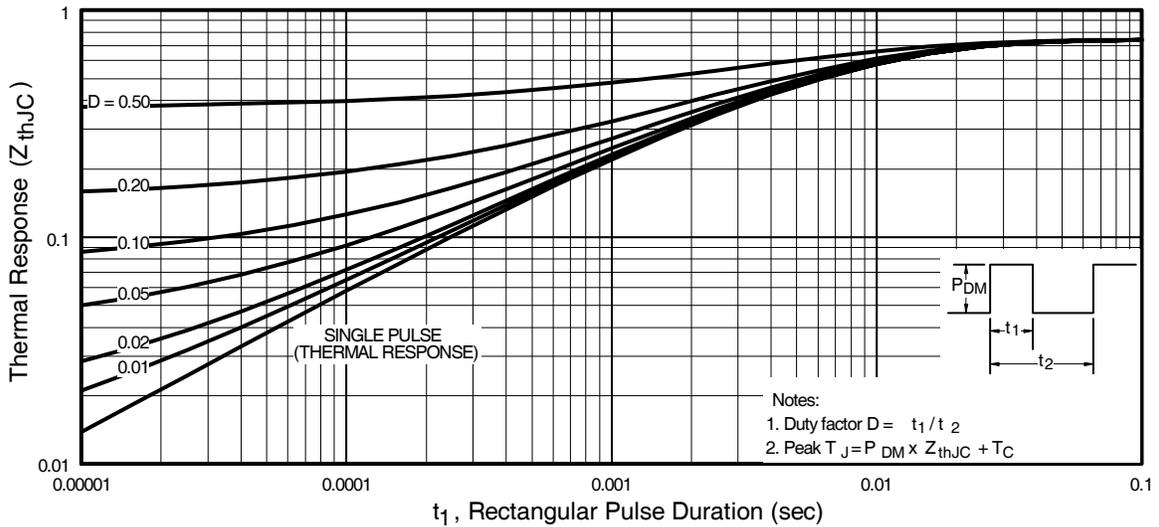

Fig 11. Maximum Effective Transient Thermal Impedance, Junction-to-Case
- ① Repetitive rating; pulse width limited by max. junction temperature. (See fig. 11)
- ② Starting $T_J = 25^\circ\text{C}$, $L = 160\mu\text{H}$